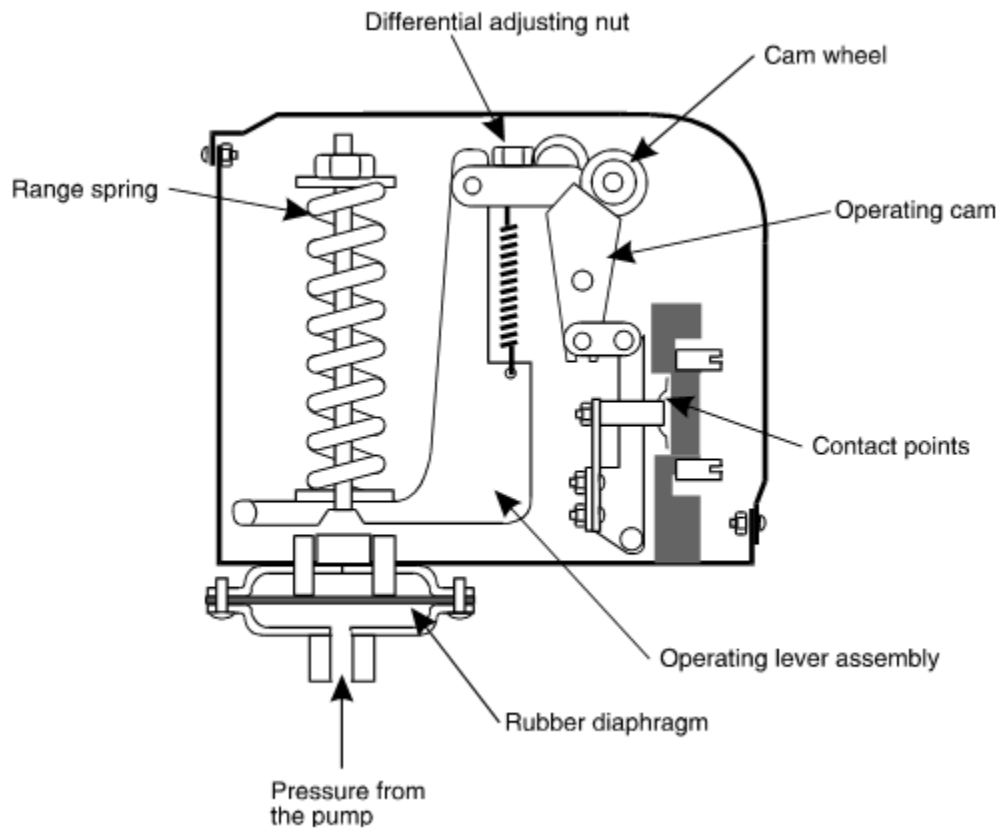

Figure 26. Pressure switch
A pressure switch monitors the pump discharge pressure and controls the electrical power supply to the pump. As stated earlier, it works in tandem with the pressure tank to maintain consistent water pressure and optimize the frequency of pump operation. A small, box-like unit, the pressure switch has a built-in flexible diaphragm that moves back and forth reacting to the water system pressure (Figure 26). The movement of the diaphragm opens and closes a set of contact points that control the power to the pump motor. This is a snap-acting switch, so the electrical contact points are quickly opened.
- Figure 26. “Pressure switch” from SkilledTradesBC is used for educational purposes under the basis of fair dealing.